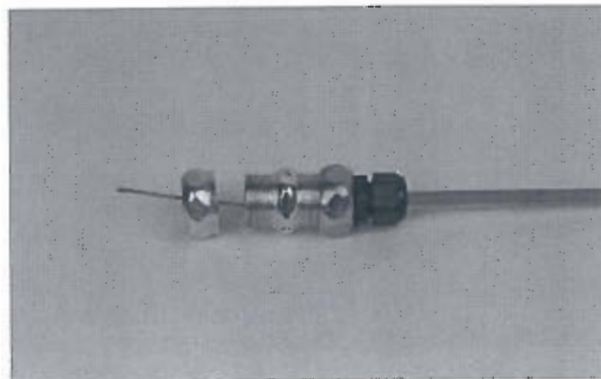

FIGURE 96
6. Starting on the opposite end of the compression union, remove the nut. See Figure 96.